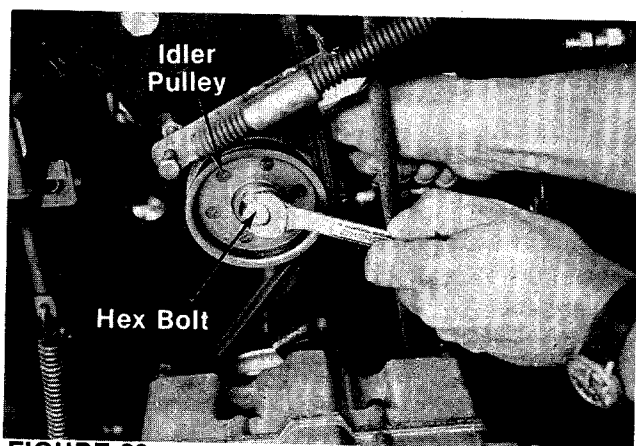

**FIGURE 29.**
3. Remove the engine pulley belt guard by slipping it back and to the right. See figure 29.